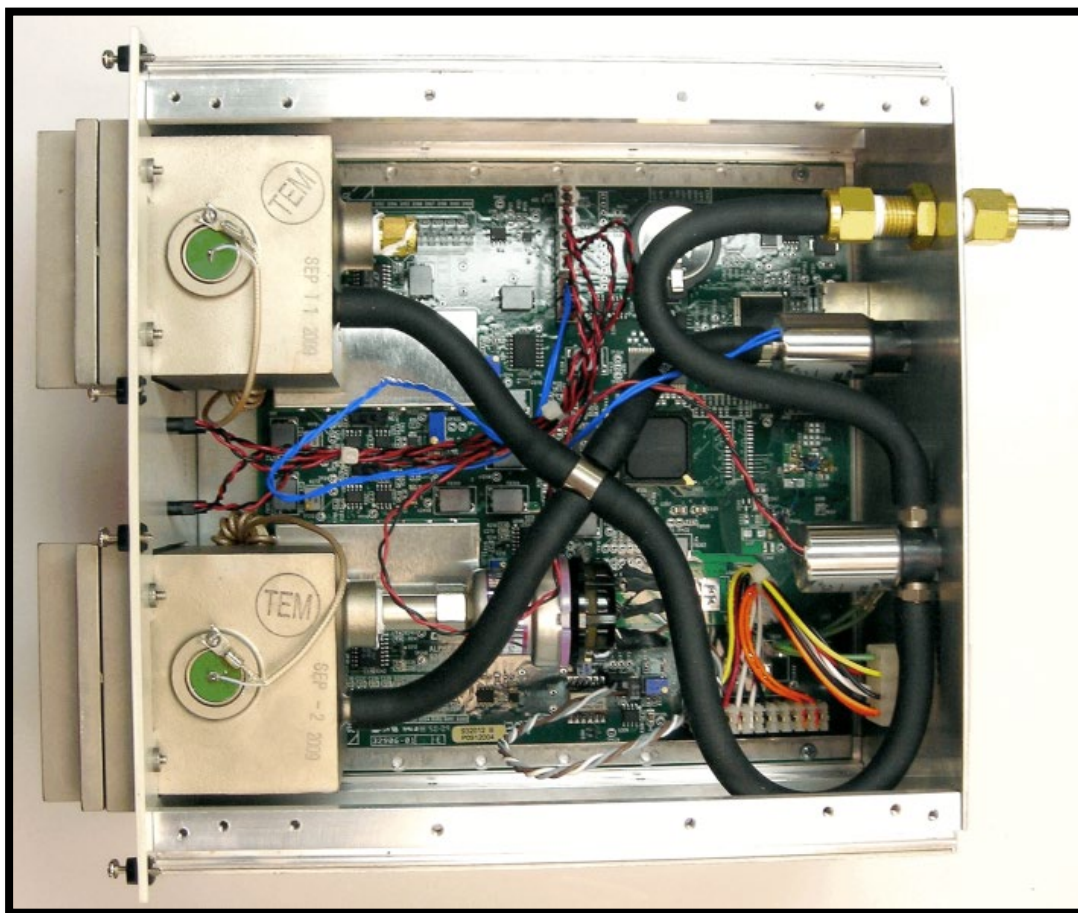
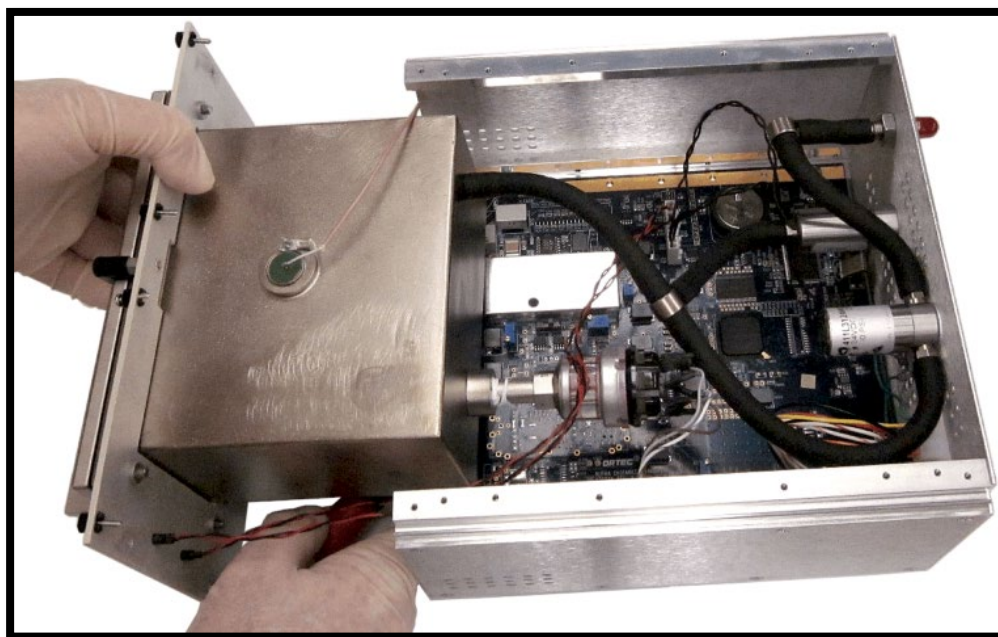

Figure 16. Inside the Alpha Duo
Figure 17. Alpha Mega Faceplate and Chamber Pulled Out of Enclosure
- 3) Next, unscrew the Phillips-head screws from the top panel of the module and set the panel aside. Figure 16 shows the interior of a Duo, and Figure 17 shows an Alpha Mega faceplate and chamber pulled out of the housing. Note that the vacuum gauge is attached to the right-hand chamber of a Duo and the right side of the Mega chamber.